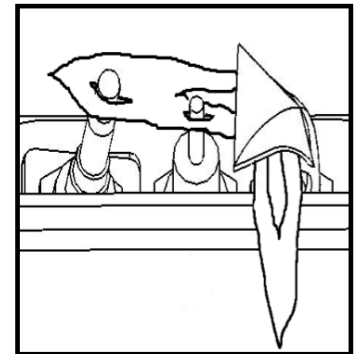

FIG. 2
4. Wait five (5) minutes to clear out any gas. Then smell for gas including near the floor. If you smell gas, STOP! Follow “B” in the safety information above. If you don’t smell gas, proceed to step 5.
6. Continuing beeps confirm the ignition is in process. Once lighting the pilot flame should appear as shown in Fig.2. Once the pilot is confirmed, the main burner ignites on high.
For your safety, this appliance is fitted with a flame supervision device which will shut-off the gas supply if, for any reason, the pilot flame goes out. This device incorporates a fixed probe, which senses the heat from the pilot flame. If the probe is cool, the device will prevent any gas flow unless manually lighting the pilot. See full lighting instructions. Periodically check the pilot flame and compare to figure 2 above.